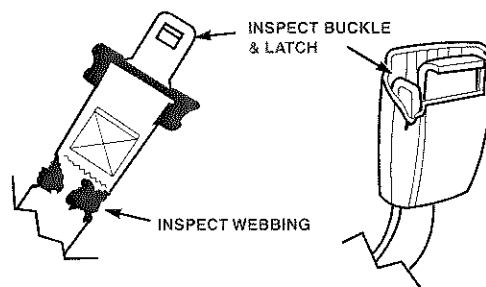

Figure 2-4 Seat Belt Inspection
1. Check the full length of the seat belt webbing for cuts, wear, fraying, dirt and stiffness. See Figure 2-4.
Stay off of slopes too steep for safe operation. To check a slope, attempt to back up it (with the cutter deck down). If the machine can not back up the slope without the wheels slipping, do not operate the machine on this slope. Under no circumstances should the machine be operated on slopes greater than 15 degrees. See Figure 2-4 located in the machine's operators manual to determine approximate slope.
Ramp angle should be no more than 15 Degrees. See Figure 2-4 located in the machine's operators manual to determine approximate slope.